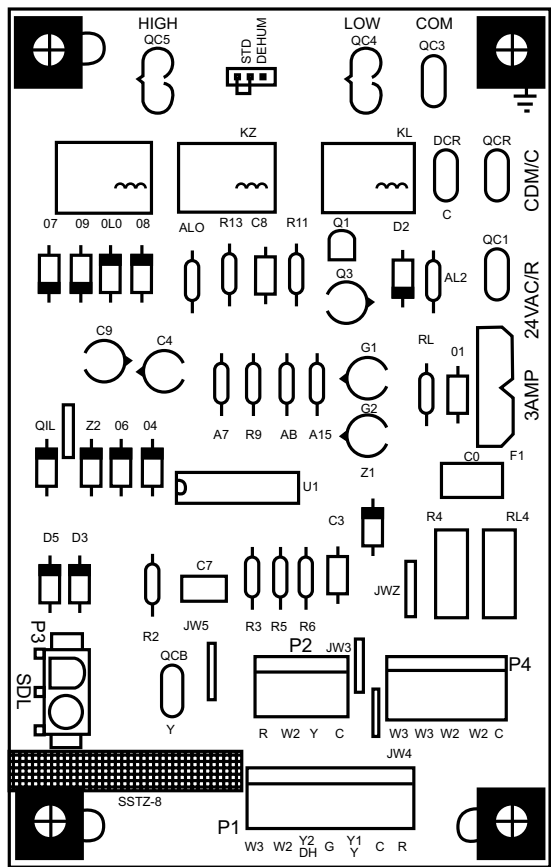

Fig. 24 – Interface Fan Board (IFB)
The cooling speed is marked “LOW” on the interface fan board (IFB) (See Fig. 24). The factory-shipped settings are noted in Table 6. There are 4 additional speed tap wires available for use in either electric heating or cooling (For color coding on the indoor fan motor leads, see Table 5). The additional 4 speed tap wires are shipped loose with vinyl caps and are located in the control box, near the interface fan board (IFB) (See Fig. 24).
2. Remove the current speed tap wire from the “LOW” terminal on the interface fan board (IFB) (See Fig. 24) and place vinyl cap over the connector on the wire.
1. Using Fig. 24, move the two pin DEHUM jumper from the “STD” position to the “DEHUM” position.
2. Remove fan speed tap wire from the “LOW” terminal on the interface fan board (IFB) (See Fig. 24).
1. Move the two pin DEHUM jumper located on control board (see Fig. 24) from the “STD” position to the “DEHUM” position.
When the DEHUM feature is not used, the continuous fan speed will be the same as cooling fan speed. When the DEHUM feature is used, the continuous fan will operate on IFB “LOW” speed when the DH control lead is not energized, or IFB “HIGH” speed when the DH lead is energized (see Fig. 24).